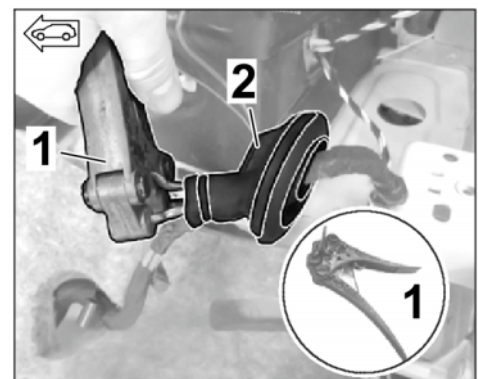

Figure 37
3.3.7 Guide the new branch for the exhaust flap (left/right) through the new grommet (left = Ø 66.5 mm/2.6 in, right = Ø 46 mm/ 1.8 in ⇒ *Figure 37*) using three mandrel pliers and an auxiliary line (Tekalan or Teflon tube).